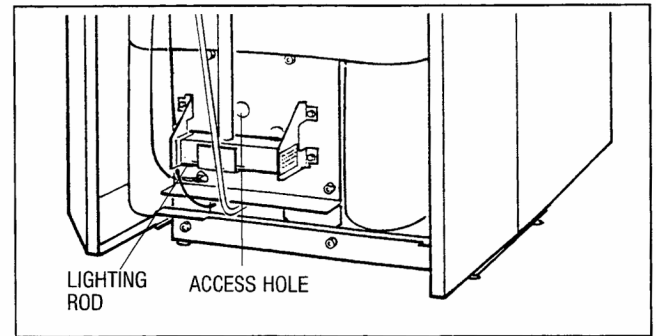

Fig. 14
1. Wait five (5) minutes to clear out any gas. Then smell for gas, including near the floor. If you smell gas, **STOP!** Follow "B" in the safety information printed on page 16. If you do not smell gas, go to the next step.
2. Locate the pilot assembly by looking through the access hole in the burner assembly plate, fig. 14.
4. Push in red reset button all the way and hold in. Immediately light the pilot using the lighting rod provided, fig. 14 and a match. Continue to hold the red reset button in for about one (1) minute after the pilot is lit. Release the button and it should pop back up. Pilot should remain lit. If the pilot goes out, turn gas control knob clockwise ↻ to "OFF", and repeat steps 1 through 4.